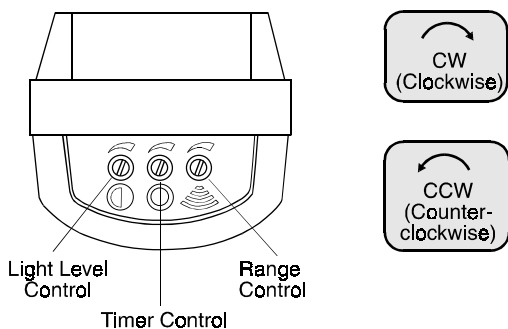

Figure 6. Adjustments
is detected. For time adjustment, see Figure 6. The time is increased when you turn the control clockwise (CW).
No, the **GL** has a day/night photocell sensor designed to enable the unit during dark hours only (see Figure 6). A light level control allows you to select the ambient light conditions at which the GL will be automatically enabled. Turning the control counterclockwise (CCW) will shift the "activation threshold" closer to total darkness. Conversely, the **GL** can be enabled during daylight hours (for testing etc.), by turning the light level control maximum clockwise (CW).
- Set the timer control to minimum (max. counterclockwise - see Fig. 6), to obtain an operating time of about 4 seconds.
- Rotate the light level control maximum clockwise (Fig. 6), to make the unit operate during daylight hours. This temporary setting is necessary for walk testing.
- Set the range control maximum clockwise to obtain maximum range (Fig. 6).